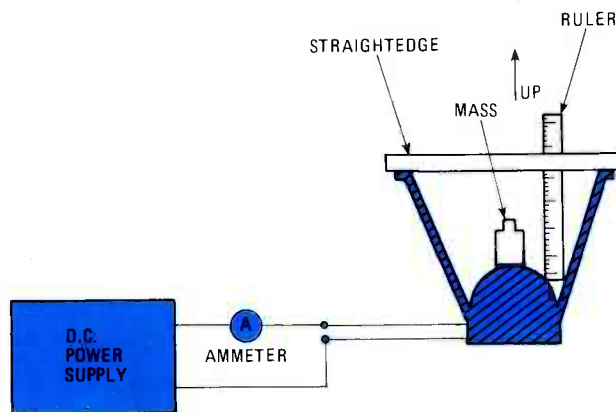

FIG. 4—ARRANGEMENT USED to measure the BI product and the mounting compliance.
The BI product is the product of the magnetic induction (B) in the magnet gap, and the length of coil wire, (l) in the gap. B is measured in Teslas. The BI product determines the force exerted on the cone for a given coil current. This product is measured, as shown in Figure 4, by placing the woofer face-up on a